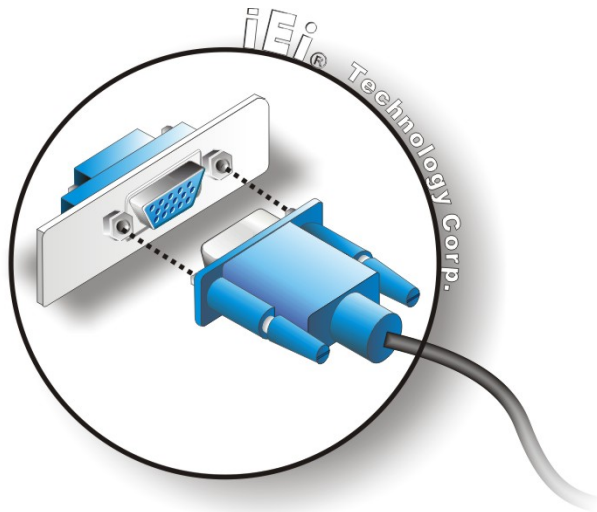

Figure 4-19: VGA Connector
- Step 3:** **Insert the VGA connector** Once the connectors are properly aligned with the insert the male connector from the VGA screen into the female connector on the WSB-G41A. See **Figure 4-19**.